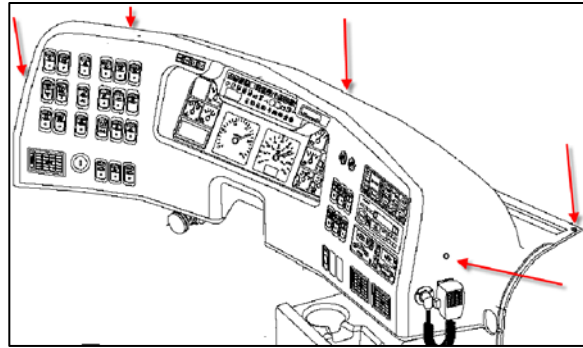

Fig.1
1. Remove dashboard cover to get access to wires, connections and A55 module. Remove M4-0.7 x 20 screws (5) that fix the cover to the dashboard (Fig.1).